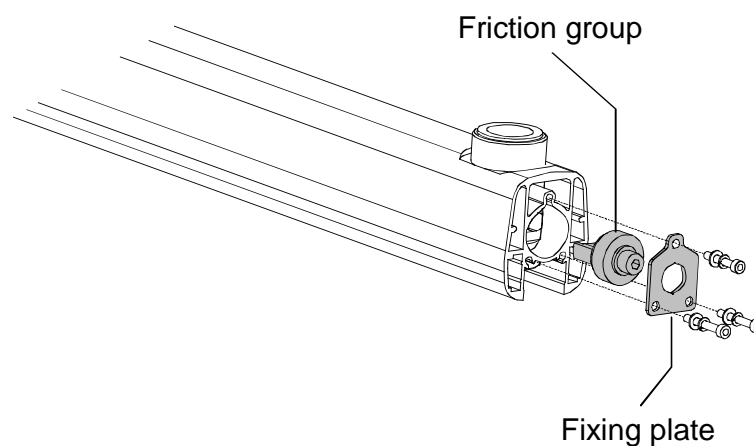

Figure 6-6
6. Mount the friction group and fix the plate using the shorter screw in the top hole (Figure 6-6). Tighten the grub screw until it is frictioned but don't force the friction. It has to be adjusted only if necessary.